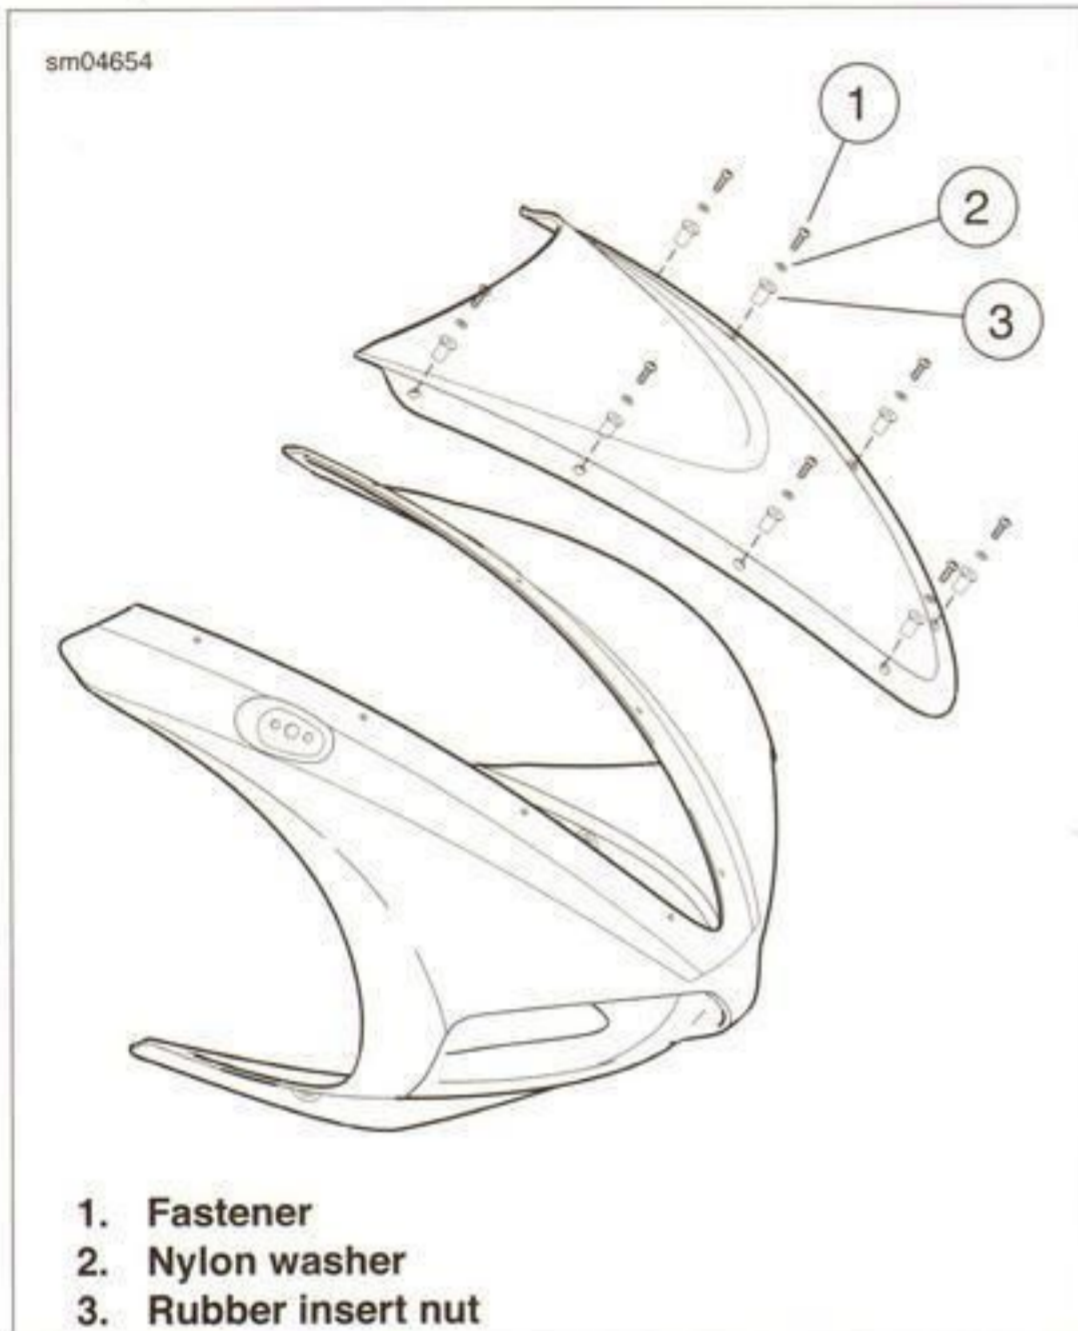

Figure 2-123. Windshield
2. See Figure 2-123. To install a windshield, run the fasteners (1) with a nylon washer (2) through the top of the fairing to sandwich the windshield between the fairing and the rubber insert nuts (3).